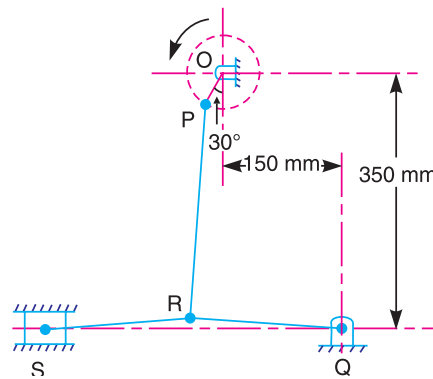

Fig. 7.40
10. A toggle press mechanism, as shown in Fig. 7.40, has the dimensions of various links as follows : $OP = 50$ mm ; $RQ = RS = 200$ mm ; $PR = 300$ mm.